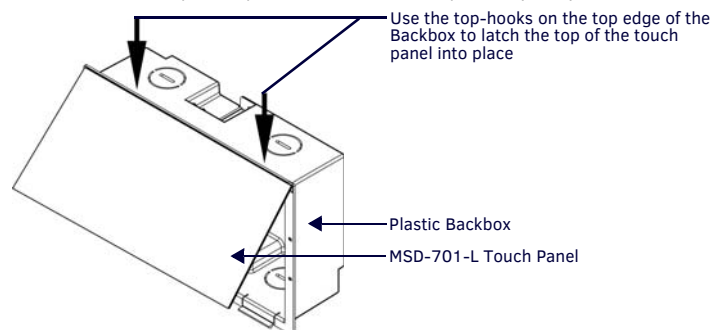

FIG. 5 ENGAGING THE TOP EDGE OF THE PANEL WITH THE TOP HOOKS ON THE BACKBOX
- Center the top edge of the touch panel against the upper outside edge of the Backbox and latch the top of the panel onto the Backbox top-hooks (FIG. 5):